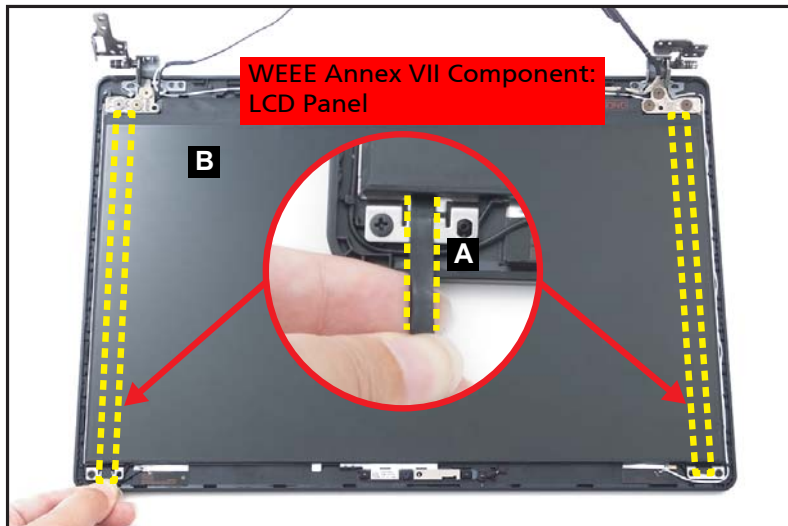

Figure 1-54. LCD Panel Removal
1. Pry slightly to access the double-sided mounting tape (A) underneath the LCD panel (B). Then pull to detach the double-sided mounting tape from the LCD cover. Repeat the same procedure to remove the double-sided mounting tape on another side of the LCD panel (Figure 1-54).